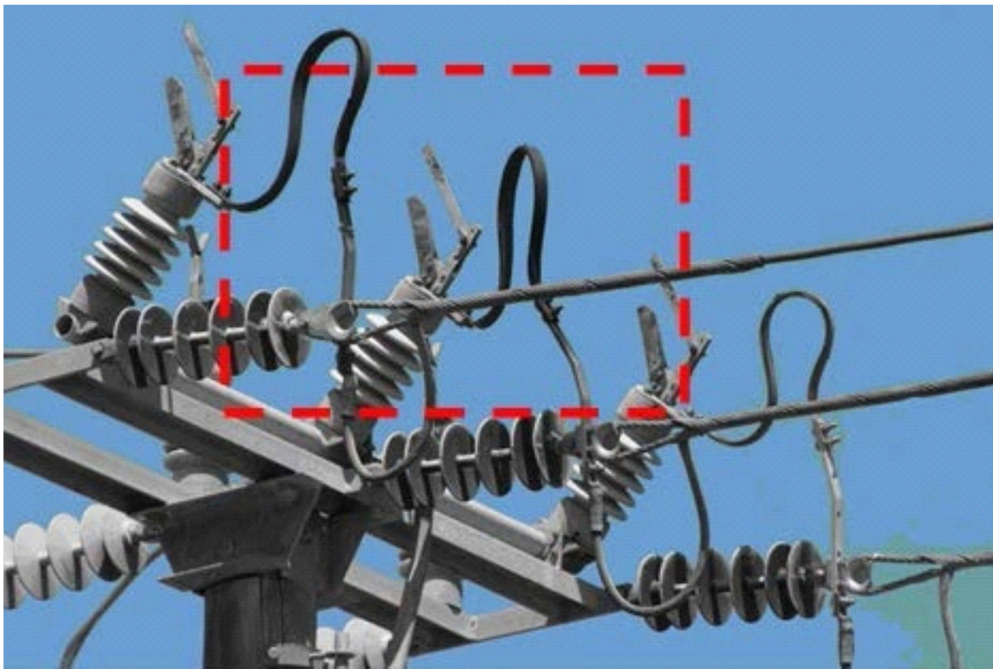
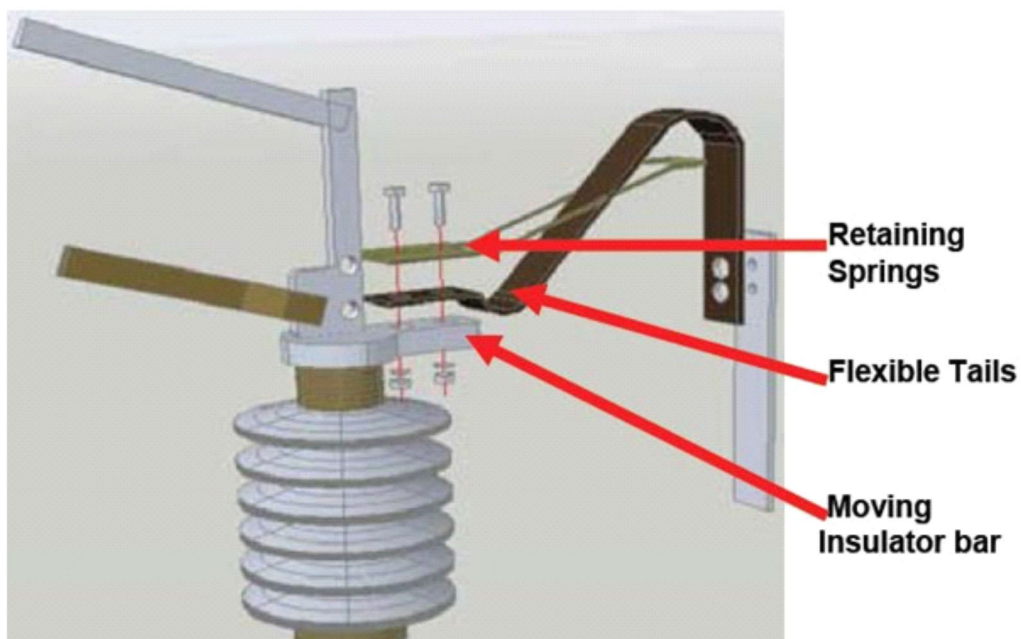

FIGURE 1
FIGURE 2
1. OLD POLE TOP SWITCHES REQUIRE THE INSTALLATION OF A SPRING (STOCK CODE CB 3056), AS SHOWN IN FIGURES 1 (SWITCH THAT REQUIRES RETAINING SPRINGS) AND FIGURE 2 (RETAINING SPRING ASSEMBLY). THE SPRING IS A STANDARD FITTING ON ALL NEW POLE TOP SWITCHES.
3. FIT THE RETAINING SPRING TO THE TOP OF THE FLEXI-TAILS AT THE BOLTED CONNECTION OF THE MOVING INSULATOR BAR (SEE FIGURE 2 (RETAINING SPRING ASSEMBLY))